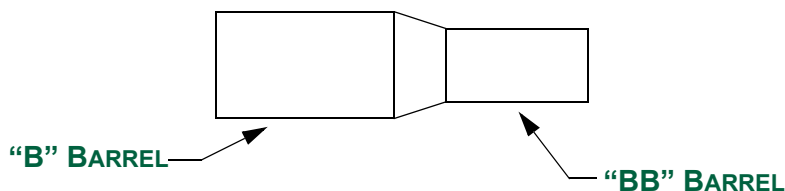

FIGURE 11 - HYREDUCER BUTT SPLICE (TYP.)
- Step 4. Insert the appropriate stripped wire fully into the splice barrel. For Hyreducer butt splices, the strip length for the larger wire to be inserted into the “B” barrel (see Figure 11 below) is different than the strip length for the smaller wire to be inserted into the “BB” barrel of the splice. Refer to Table III for both of the required wire strip lengths.